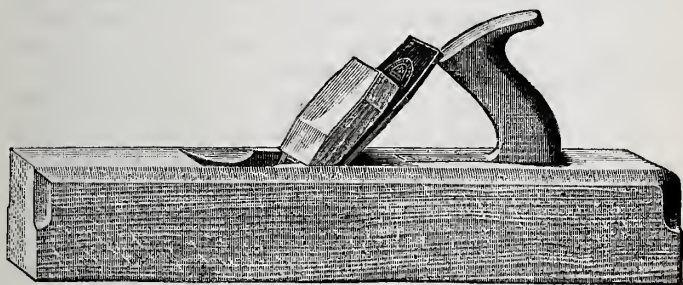

Fig. 6.—Jack Plane.
*Jack Plane.*—This is a tool shaped as shown in Fig. 6, and is the one used first on a rough piece of wood, or when it may be necessary to reduce the size considerably. Either this planing down or the removal of roughness might be done with another and finer plane, but then there would be more labour and risk of injuring the finer tool and unfitting it for its special work. The